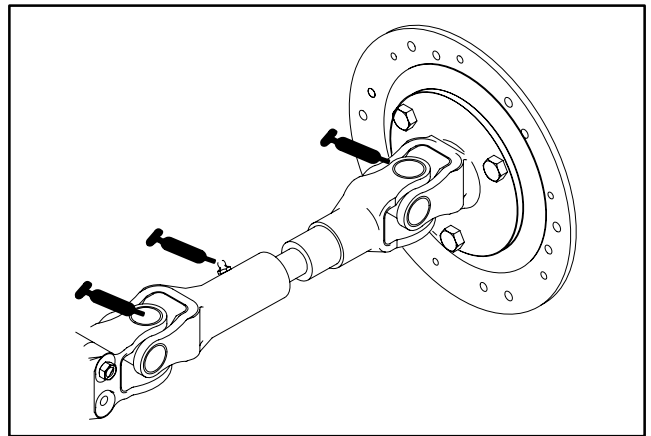
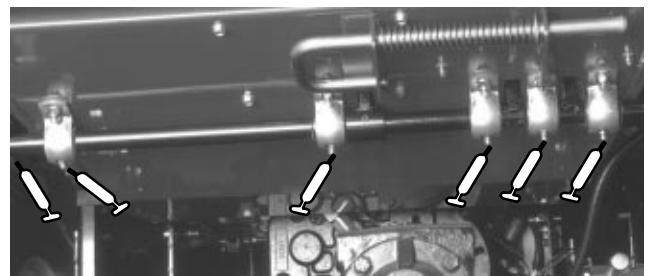

Figure 4
Figure 5
All Models—Intermediate Drive Shaft (3) (Fig. 4); Pedal Pivots (5), Traction pedal (In square tube under floor plate) (1) (Fig. 5) and Lift arm pivot (2) (Fig. 6).